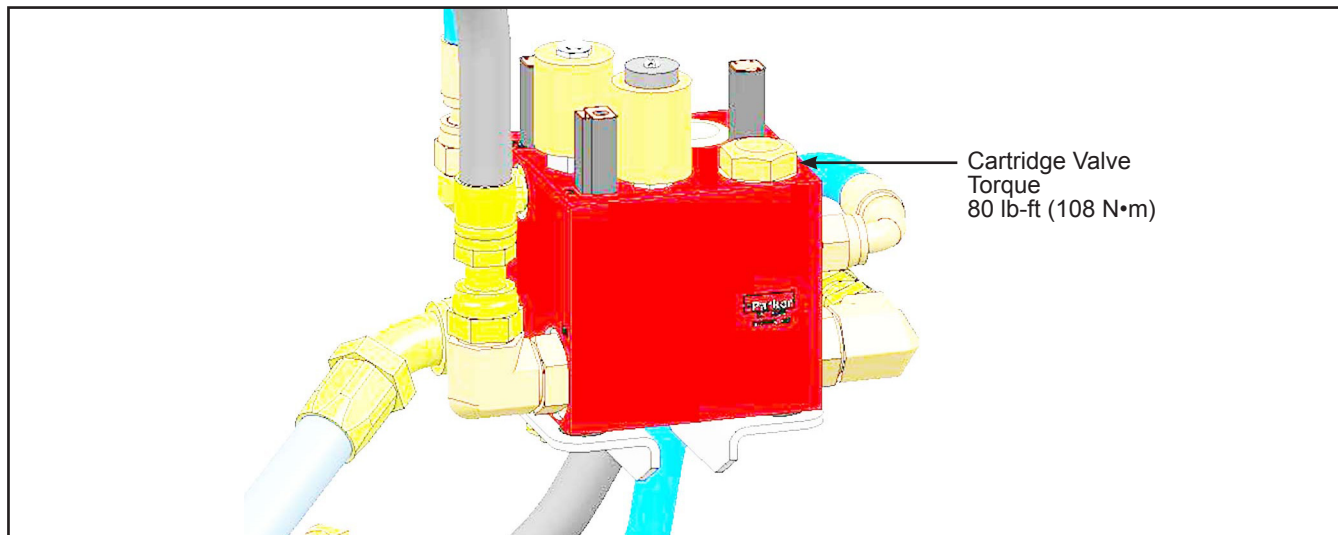

Figure 4 - Valve Torque
- 1.5. Tighten the cartridge valve to the specified torque in Figure 4.